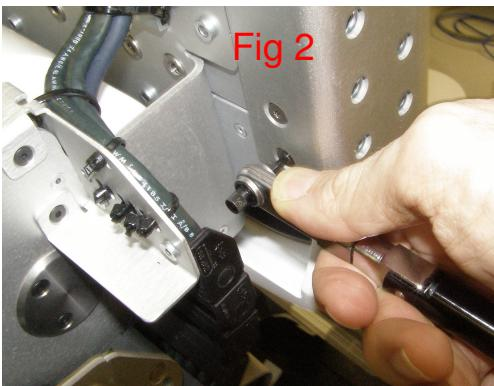

Fig 2
3. Press on the forward edge of the Hatch to pivot the rear up, lift it up and out. (Fig 2).
1. Reattach the ratchet head to the 0.68Nm right angle torque wrench. With (IN) facing up and the 2.5mm short bit.
5. Using the 2.0Nm right angle torque wrench together with the 2.5mm short bit with (OUT) facing up, remove the 4 screws. 2009-08 (Fig 2,3,4)